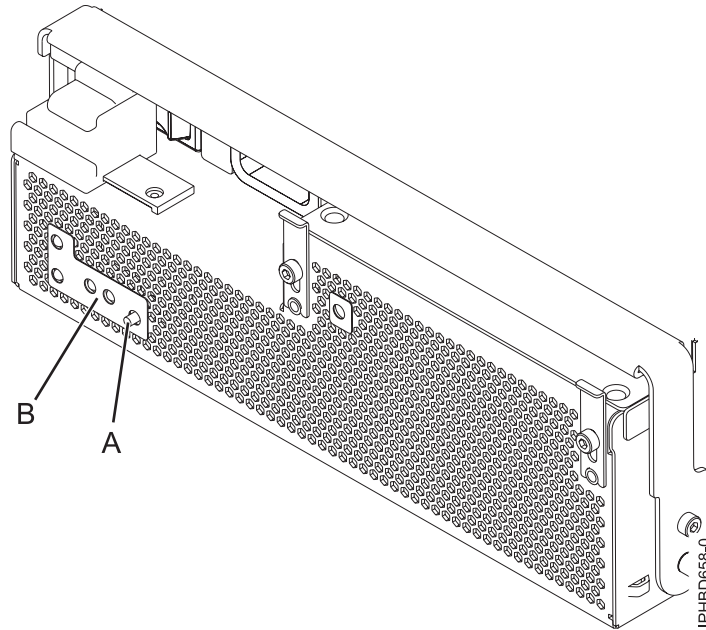

Figure 22. Fan fault LED
Note: If you replaced a power supply fan as part of this procedure, note the state of the fan fault LED (B) shown in Figure 22 on page 21. If the LED is off, indicating that both fans are operating normally, continue to the next step. If the LED is flashing or on solid, remove the power supply assembly from the expansion unit and repeat the procedure starting with step 5 on page 17. If, after repeating the procedure, the power supply fan is not operating normally, contact your service provider.